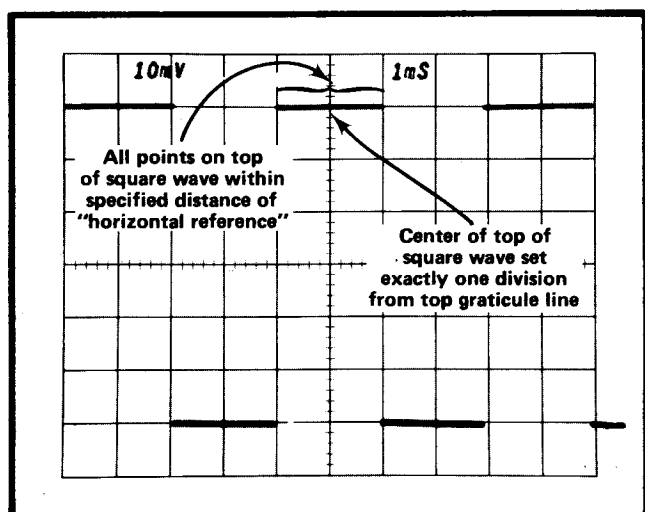

Fig. 5-14. Aberration check waveform; step 12.
g. Check the response of the Calibration Fixture at each setting indicated in Table 5-7. These will be used as reference waveforms against which the 7A11 response will be checked. The area to be observed is indicated in Fig. 5-14. Note any aberrations or deviations from flatness.
h. Select 250 Hz at the Type 106 Square Wave Generator and 1 ms at the Time Base. Then adjust the Type 106 Square Wave Generator + Transition Amplitude for exactly 6 divisions display amplitude. (7A11 at 10 mV.) Adjust the 7A11 POSITION control to align the center of the top of the waveform accurately with the horizontal line 1 division below the top of the graticule, as in Fig. 5-14. This horizontal line will be referred to as the "horizontal reference line" for the remainder of this step.
i. CHECK—250 Hz response. All points on the top of the square wave should be within 0.18 divisions of the horizontal reference line as in Fig. 5-14. (If the Calibration Fixture's 250 Hz waveform contained aberrations or deviated from flatness, the Calibration Fixture's waveform must be used as reference.)